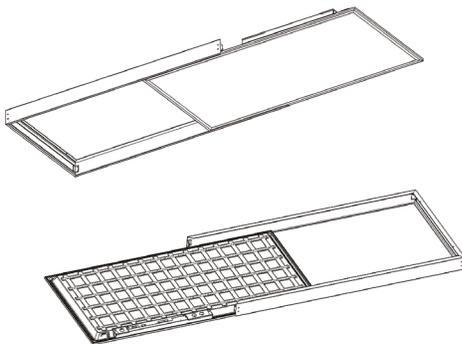

Figure 4
- Slide fixture partway into the SMSK and make wiring connections according to state and federal regulations (Figure 4)